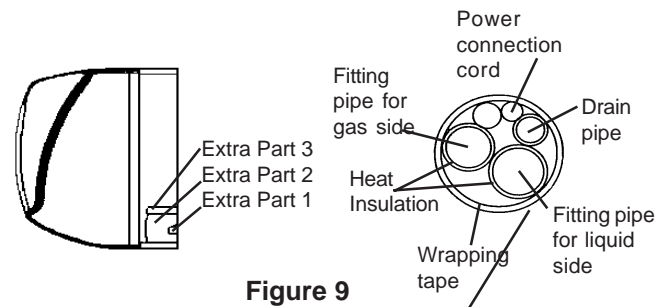

Figure 9
1. When laying the pipe line on either the left or right side, cut out extra part as needed to accommodate piping at the tube exit plate on the base of the unit. See Figure 9.